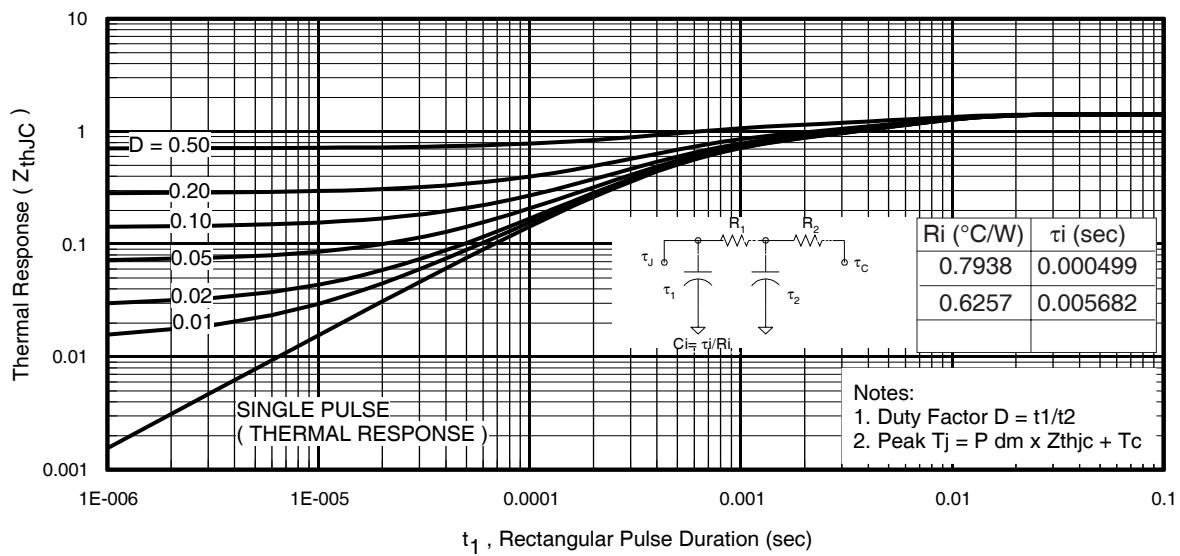
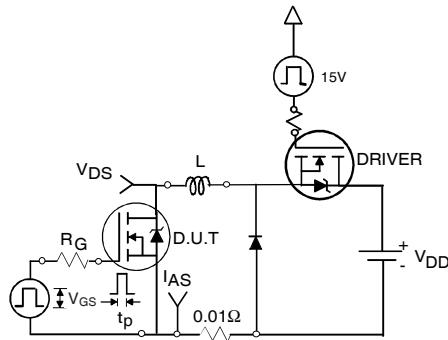

Fig 11. Maximum Effective Transient Thermal Impedance, Junction-to-Case
Fig 12a. Unclamped Inductive Test Circuit
| I _{AR} | Avalanche Current ① | See Fig.12a, 12b, 15, 16 | A |
3. Equation below based on circuit and waveforms shown in Figures 12a, 12b.
$Z_{thJC}(D, t_{av})$ = Transient thermal resistance, see figure 11)
- ① Repetitive rating; pulse width limited by max. junction temperature. (See fig. 11).
- ② Limited by T_{Jmax} , starting $T_J = 25^\circ\text{C}$, $L = 0.197\text{mH}$ $R_G = 25\Omega$, $I_{AS} = 32\text{A}$, $V_{GS} = 10\text{V}$. Part not recommended for use above this value.
- ③ Pulse width $\leq 1.0\text{ms}$; duty cycle $\leq 2\%$.
- ④ C_{oss} eff. is a fixed capacitance that gives the same charging time as C_{oss} while V_{DS} is rising from 0 to 80% V_{DSS} .
- ⑤ Limited by T_{Jmax} , see Fig.12a, 12b, 15, 16 for typical repetitive avalanche performance.
- ⑥ This value determined from sample failure population. 100% tested to this value in production.
- ⑦ When mounted on 1" square PCB (FR-4 or G-10 Material). For recommended footprint and soldering techniques refer to application note #AN-994
- ⑧ R_θ is measured at T_J approximately 90°C